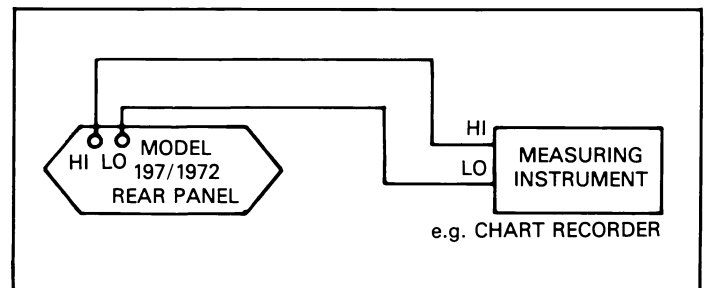

Figure 5-1. Analog Output Connections
1. Connect the measuring device to the two analog output terminals on the rear panel as shown in Figure 5-1.